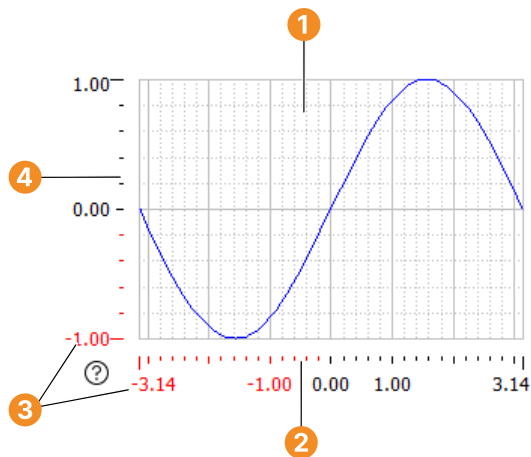

Figure 6.27: Example plot window.
- An example plot window is illustrated in figure 6.27.